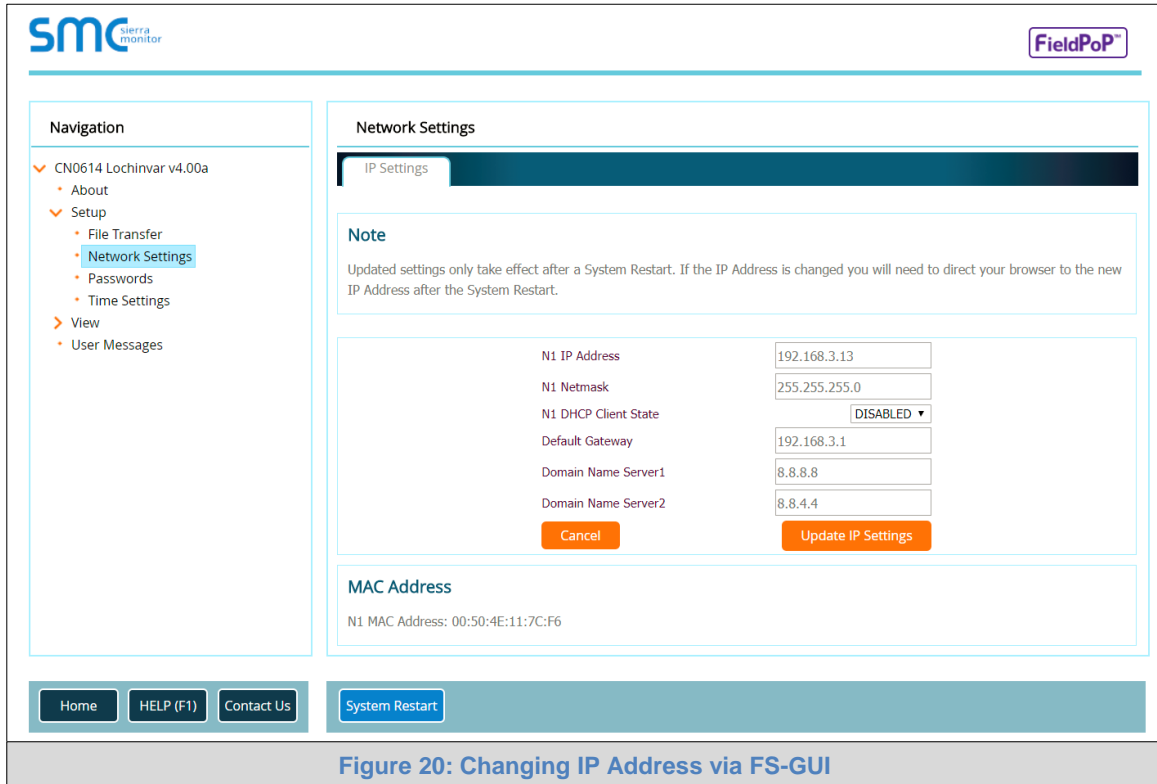

Figure 20: Changing IP Address via FS-GUI
- From the FS-GUI landing page, click on “Setup” to expand the navigation tree and then select “Network Settings” to access the IP Settings menu. (Figure 20)
**NOTE:** The FieldPoP™ button  (see Figure 20) allows users to connect to the SMC Cloud, Sierra Monitor’s device cloud solution for the IIoT. The SMC Cloud enables secure remote connection to field devices through a FieldServer and its local applications for configuration, management, maintenance. For more information about the SMC Cloud, refer to the SMC Cloud Start-up Guide.